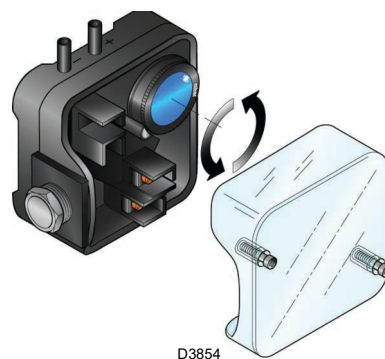

Fig. 27
- Adjust the air pressure switch (Fig. 27, page 29) to the start of the scale.
- adjust the maximum air pressure switch (Fig. 27, page 29), on the burner's air box, to the start of the scale.
Adjust the air pressure switch after performing all other burner adjustments with the air pressure switch set to the start of the scale (Fig. 27). With the burner operating at MAX. output, increase adjustment pressure by slowly turning the relative knob clockwise until the burner locks out. Then turn the knob anti-clockwise by about 20% of the set point and repeat burner starting to ensure it is correct. If the burner locks out again, turn the knob anti-clockwise a little bit more.